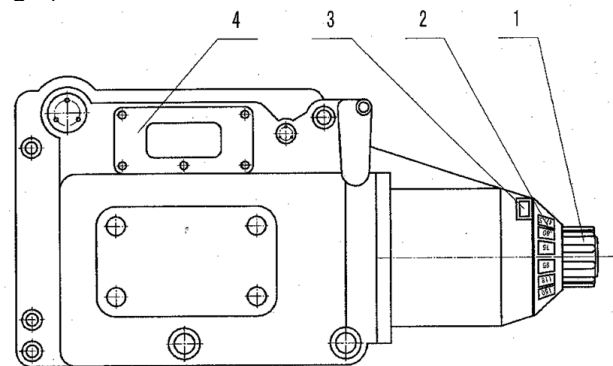
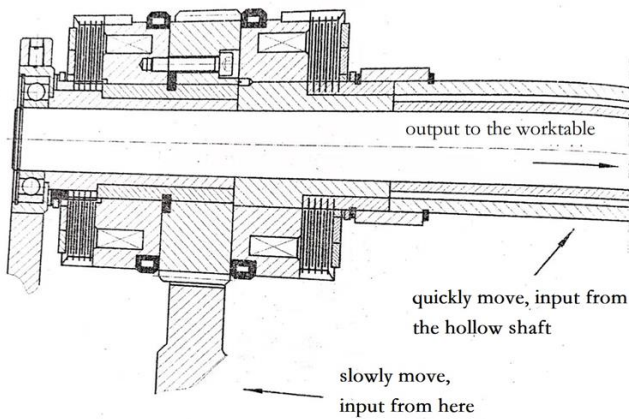
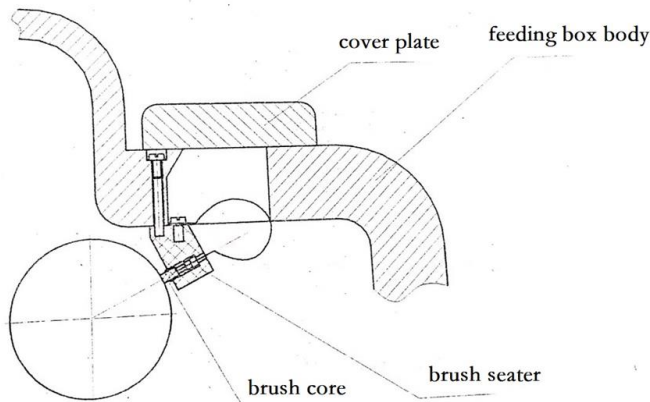

Fig 4
Fig 5
Fig 6
Speed change box is installed on the left of knee, which includes five drive shafts. Different engagement of a set of gears and two sliding triple gears on drive shafts will get 18 steps speed.(see Fig.4).
5.3 Pull the handle forward to limiting position to connect to power, then push back to original position. Operator can change speed during running of machine. Longitudinal, cross, vertical directions feed and rapid movement are controlled by two electromagnetic clutches on the shaft VI (see Fig.5), and the two electromagnetic clutches interlock. It is slow feed when electromagnetic clutch A attracts; it is rapid feed when electromagnetic clutch B attracts. Electromagnetic clutch is attrition flake type, and direct current produce suction, which passes 130 NM torque. Refer to Fig.6 about electromagnetic clutch brush construction, brush seat is fixed at the feed speed change box, remove cover (4) first (see Fig.4), then may disassemble or repair it. Note: Ensure brush core flexibly slide and slip ring of electromagnetic clutch contact well, Coil brush is made of wiring cloth only when replacing it, not use other material instead.